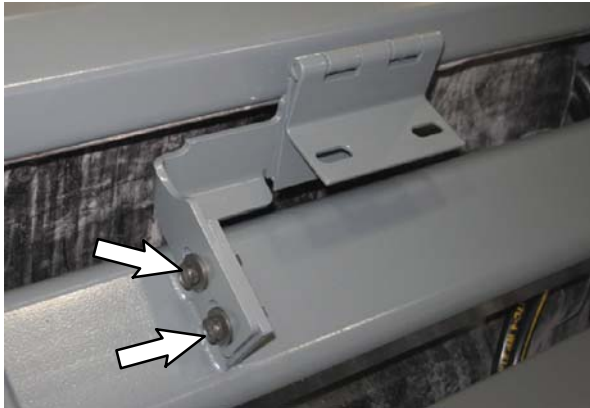
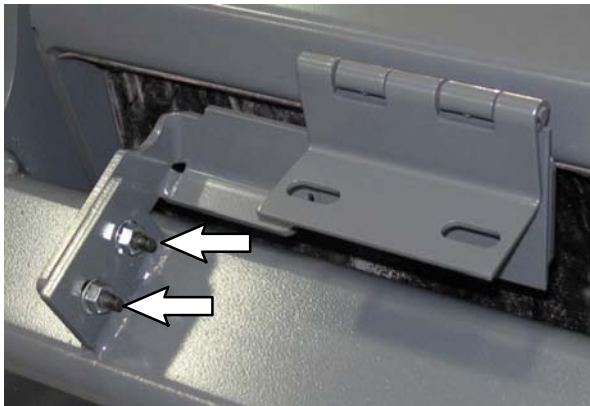

FIG. 16
FIG. 17
- Install the hopper debris door (26) onto the hopper door hinge assembly (20).
24. Use two hex screws (88) and two hex nuts (17) to install the right hopper cover hinge (14) and left hopper cover hinge (15) onto the hopper lift assembly. (Fig. 16 / Fig. 17)